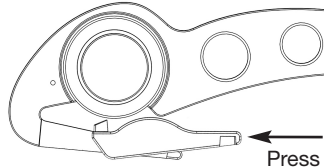

Fig. 3
1. Fit a new blade in to the handle (5).
2. Place the washer (2) on the blade.
3. Install the washer and the blade by using the knurled screw (1).
4. Slip the support (4) over the projecting arm (the hook). (fig. 3)